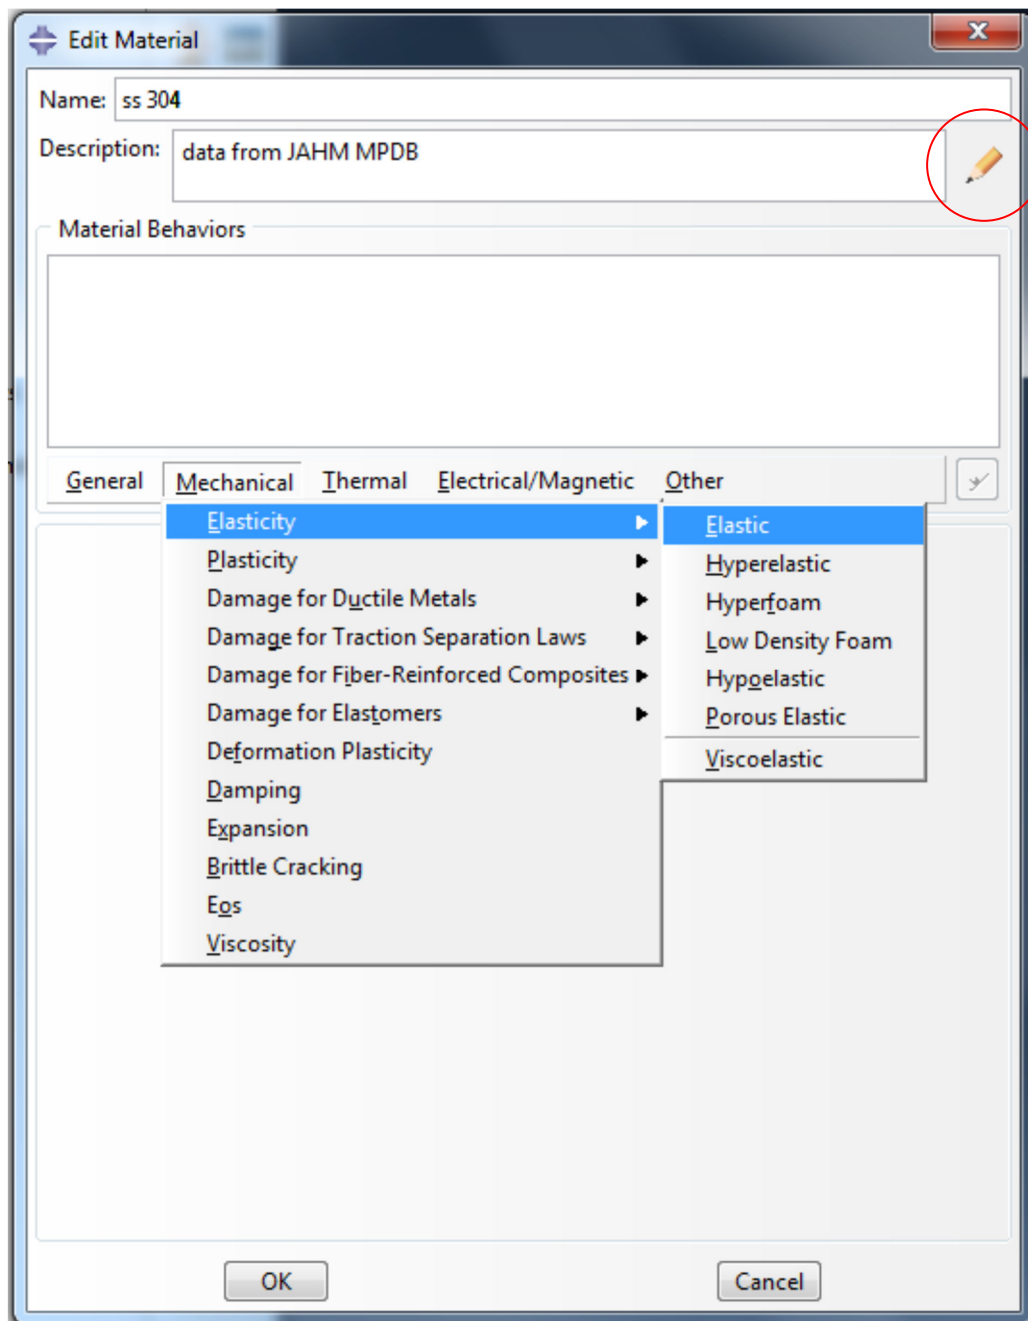

Figure 7.
- c) Enter the material name and a description (Click the pencil icon to add a comment). Select the property you want to import data for, Figure 7.